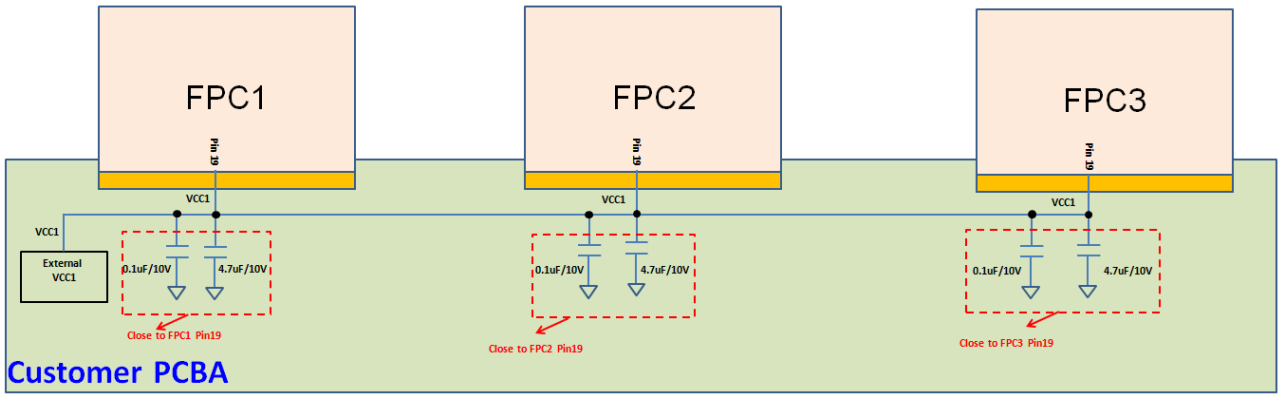

Figure 11: Cascade design with external Power Supply (VCC1)
- (5) The VCC1 voltages are provided by external power (Figure 11) ;
- (6) The capacitors of VCC1 need to be as close to FPC as possible (Figure 11) ;